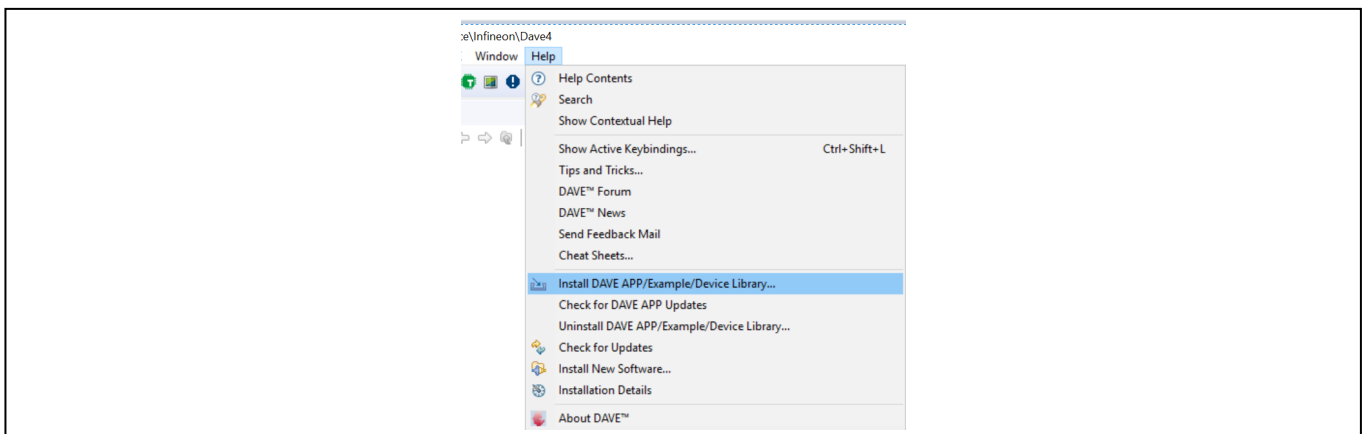

Figure 8 Installing Device Library and Dave™ APP
- From the top menu (under Help), select “Install DAVE APP/Example/DeviceLibrary” as shown in Fig 8.